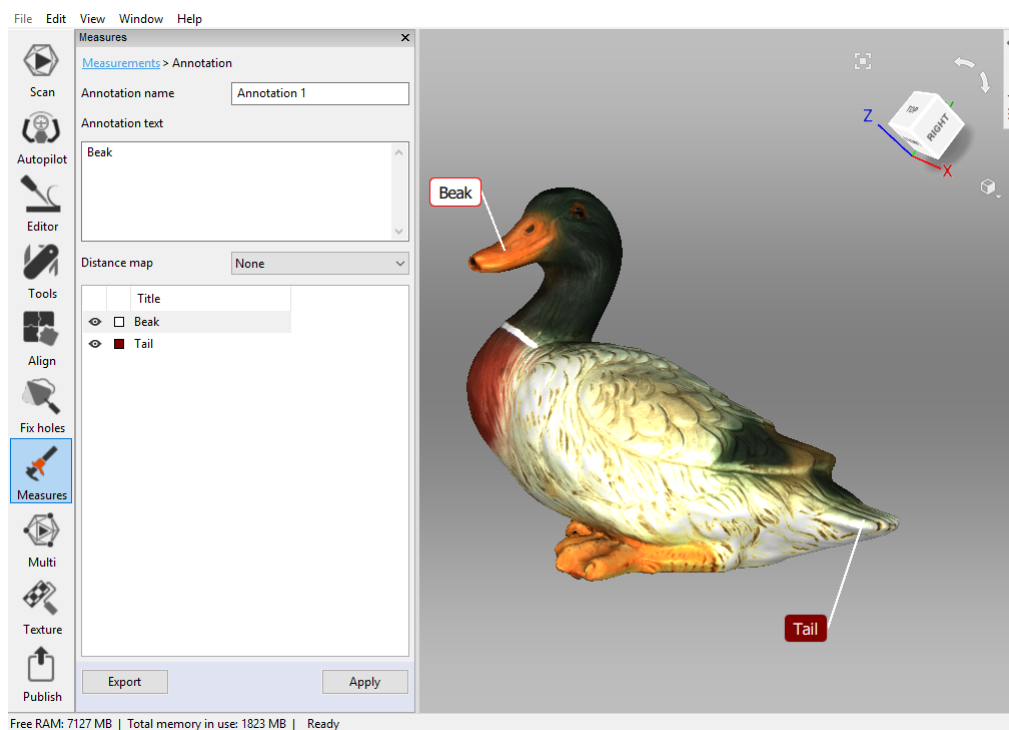

Figure 121: Annotation of a model layered with a surface-distance map.
Annotations tools allow you to mark noteworthy surfaces and surface-distance maps. The annotation can include one or more labels, which look like rectangular tags with connecting lines pointing to the corresponding surface elements (see Figure 121).
5. Repeat Steps 3 and 4 to create a new label. In addition to tagging the surface, each new label will appear in the annotation list of the *Measures* panel (see Figure 121). You can show or hide labels in the list or change their colors by clicking RMB and selecting the appropriate option from the menu. Alternatively, toggle the selection flag  or click the square button to show/hide labels or change their colors, respectively.
- Select the label in the *3D View* window; its border color will become red (see selected label in Figure 121). Hit the **Del** key.